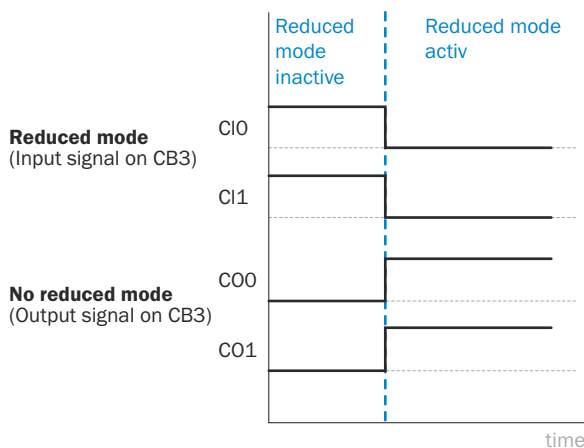

Figure 12: The signal states change when switching to reduced mode.
- 4) When the safety-rated monitored speed output is LOW, the robot checks to see if the reduced speed (reduced mode) has been safely reached. When the reduced mode is active, the robot controller confirms this with a change of the "Non-reduced mode" signal from LOW to HIGH. (see figure 12, page 35).